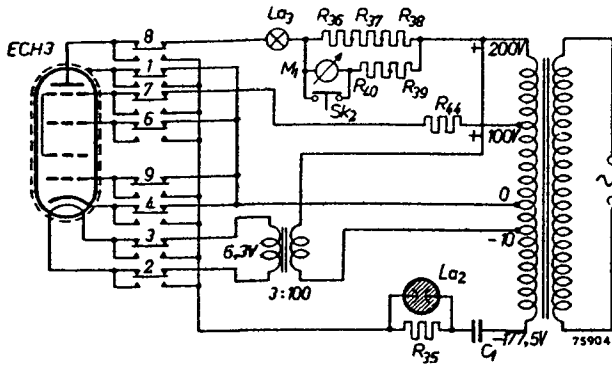
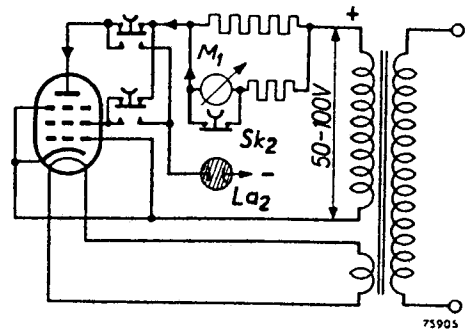

Fig. 5
Fig. 6
The functioning is illustrated in fig. 5, showing for example the circuit for measuring an ECH 3.
A. First the anode of the valve part to be tested has to be checked for leakage or short-circuiting. This is done by pressing in the button corresponding to this electrode, as indicated on the label of the measuring card under "Electrode" (button 8 in fig. 5).
An exception are those tubes where during measurement the screen grid of the valve part under test, is connected to the anode. This can be seen on the measuring card of the appertaining valve part. If, as is the case with most valves containing a screen grid, the hole G_s of group IV has been punched in the column for the screen grid of the valve part to be examined (see also manual), this means that during the measurement the screen grid is indeed separately supplied with a voltage (see e.g. fig. 5). If no hole G_s has been punched, this means that during measurement the screen grid is connected to the anode (fig. 6). In that case a hole A has been punched both with the anode as with the screen grid (see e.g. in the manual the EF 39, KL 1, KL 2, KL 5, UF 8, UL 1 etc.).